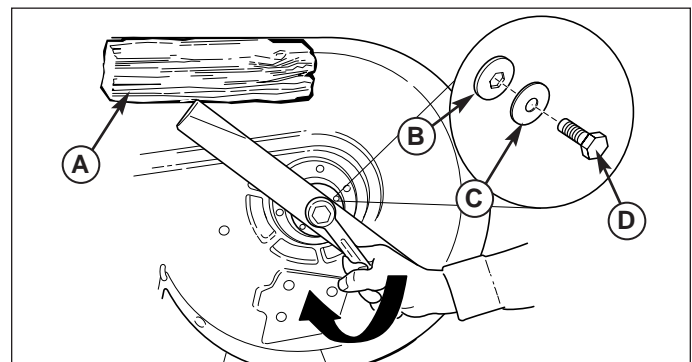

Figure 6. Blade Installation Mowers
5. Reinstall the large washer (B, Figure 6), spring washer (C) and capscrew (D). Use a wooden block (A) to prevent blade rotation while tightening the capscrew (D) to 45-55 ft. lbs. (61-75 Nm).